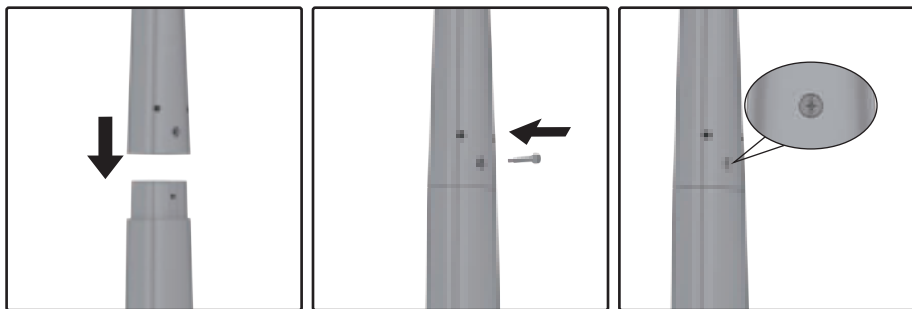

Figure 3-2b
Step 2: Insert the power display into the water tank, then insert the bolt and lock it with a coin or a screwdriver (see Figure 3-2b).